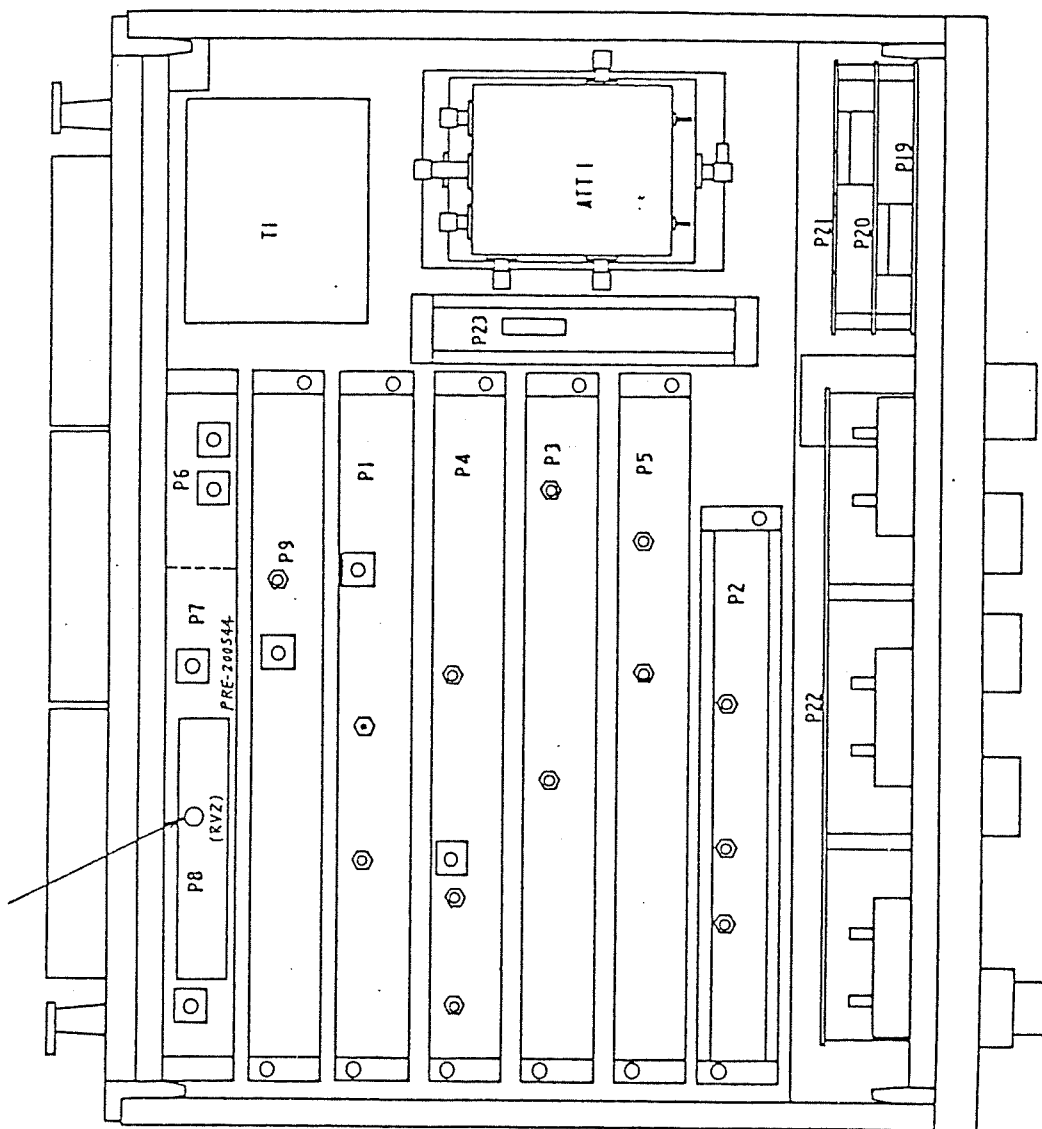

Fig. 4-7 Location of adjuster on P7 (PRE-200544) for calibration of the output level meter of the signal generator
- (1) As test item, set [AF INPUT LEVEL] ② by pressing the  or  button ①..
- (2) Turn the [OUTPUT LEVEL dBu] switch ③ to the left and set the output level to [80] by turning the dial fully clockwise.
- (3) Set the [MOD SELECT] ④ to [OFF].
- (4) Connect a RF level meter to the [RF INPUT/OUTPUT 50  $\Omega$  MAX. 25 W] ⑤.
- (5) Set the [RF FREQUENCY 25 ~ 520 MHz] switch ⑥ to [250.0000] MHz by pressing the frequency setting button  or .
- (6) Bring the output level of this apparatus indicated on the RF level meter to 80 dB by adjusting the [+1 ~ 10 dBμ] knob ⑦.
- (7) Bring the indication of the output level meter ⑧ to [0 dBμ] by adjusting RV2 on circuit board unit P7 (PRE-200544). The location of RV2 is shown in Fig. 4-7.